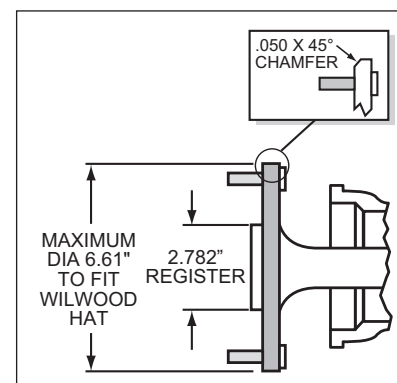

Figure 5. Axle Flange Maximum Dimension
- Maximum axle flange diameter must be no larger than 6.61" w/.050" x 45° chamfer (Figure 5, right).